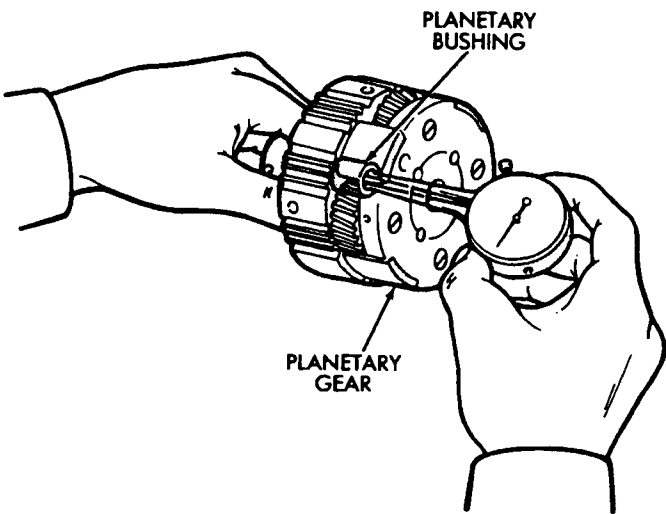

Fig. 19 Checking Planetary Bushing
(21) Check inside diameter of planetary gear bushing (Fig. 19). Maximum inside diameter is 11.27 mm (0.4437 in). Replace planetary gear if bushing inside diameter is greater than specified.